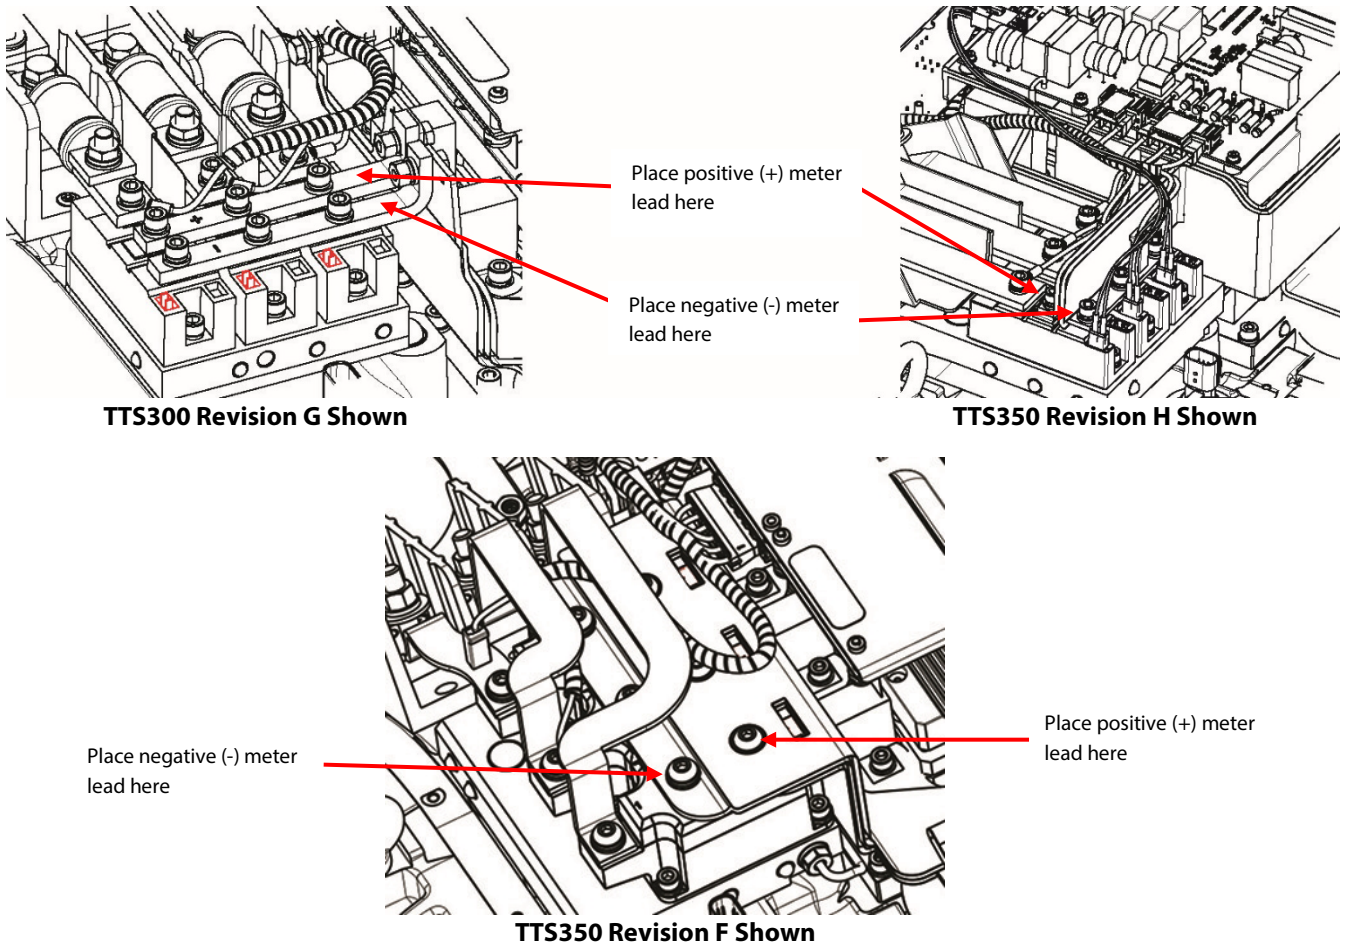

Figure 2 - DC Bus Voltage Test Points
- Using an appropriately-rated voltage meter, check the DC Bus Bars for DC voltage level. If the voltage is above 30 volts direct current (VDC), wait five (5) minutes and recheck until voltage is below 30 VDC. Refer to **Figure 2 - DC Bus Voltage Test Points**.